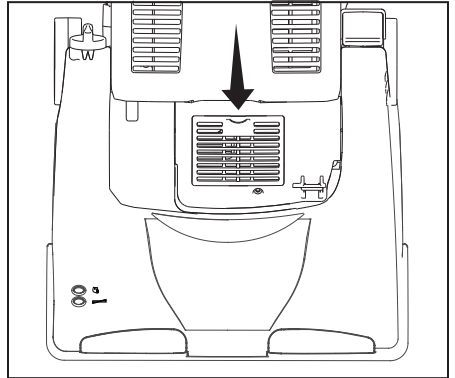

Fig. 2
- Pull the black filter cover latch to access the filter (Fig. 2).